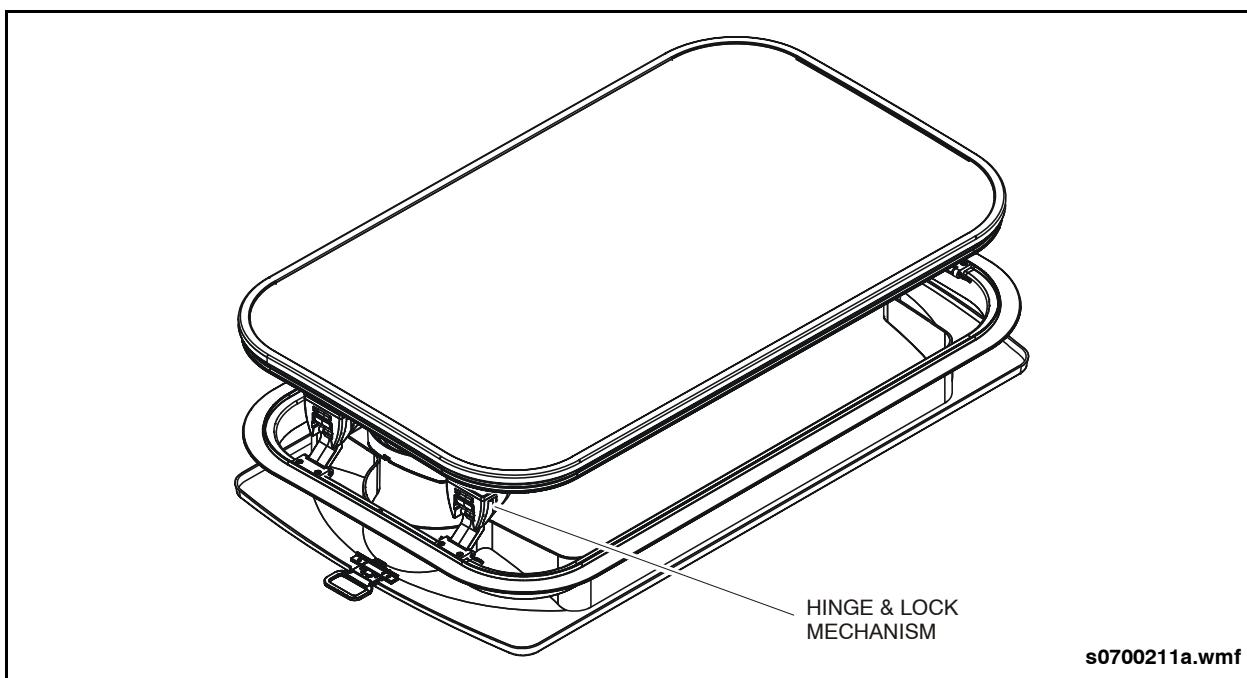

Fig. PM-21: Roof Hatch Inspection
- Inspect the vent/hatch moving parts every 6,000 miles (9,600 km). Make sure the latches close and fasten securely. The latches must fasten securely, with no slack or looseness. If the attaching hardware cannot be tightened, replace the applicable latch parts using new hardware and fasteners. See "Fig. PM-21: Roof Hatch Inspection" on page 49.